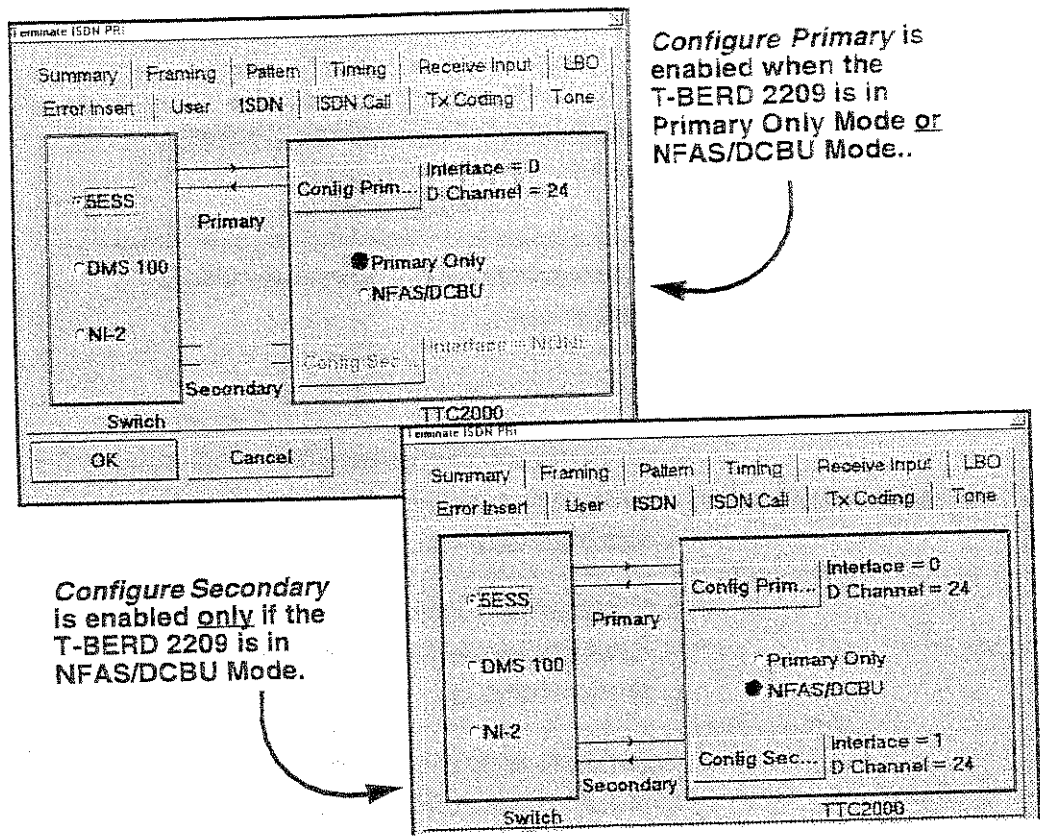

Figure 4-8. ISDN PRI Setup Screen
The ISDN Setup Screen is visible only when the **Monitor ISDN PRI** or **Terminate ISDN PRI** test applications are active. To check or change the ISDN PRI configuration, press the **Setup** button, which replaces the Main Screen with the Setup Screen (Figure 4-8).
The ISDN Setup Screen shows a graphical summary of the test setup that matches the selected ISDN application. Press **Configure Primary** or **Configure Secondary** to select the Primary, Secondary, and D-Channel selection. Figure 4-8 shows that **Configure Secondary** is disabled while terminating a single T1, "Primary Only" mode in the ISDN Property Sheet (when setting up for testing in Terminate ISDN PRI).
3. Select the **ISDN Property Sheet** tab. Configure **Call Control**, D-Channel test type (**Primary Only** or **NFAS/DCBU**), and the **D-Channel** (s) DS0s (see Figure 4-8).